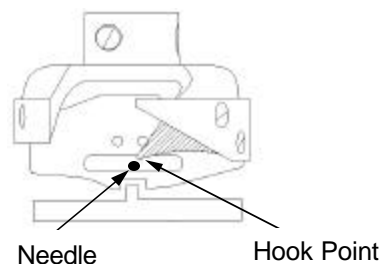

Figure 2
6. Rotate handwheel so hook spins counter-clockwise and stop when Hook Point is directly behind needle. (This should occur at 24° on degree wheel) See figure 2
10. Continue to rotating handwheel until needle rises 2-3mm (24° on degree wheel). Middle of needle scarf will be even with outer edge of Hook Assembly. See Figures 2 & 3